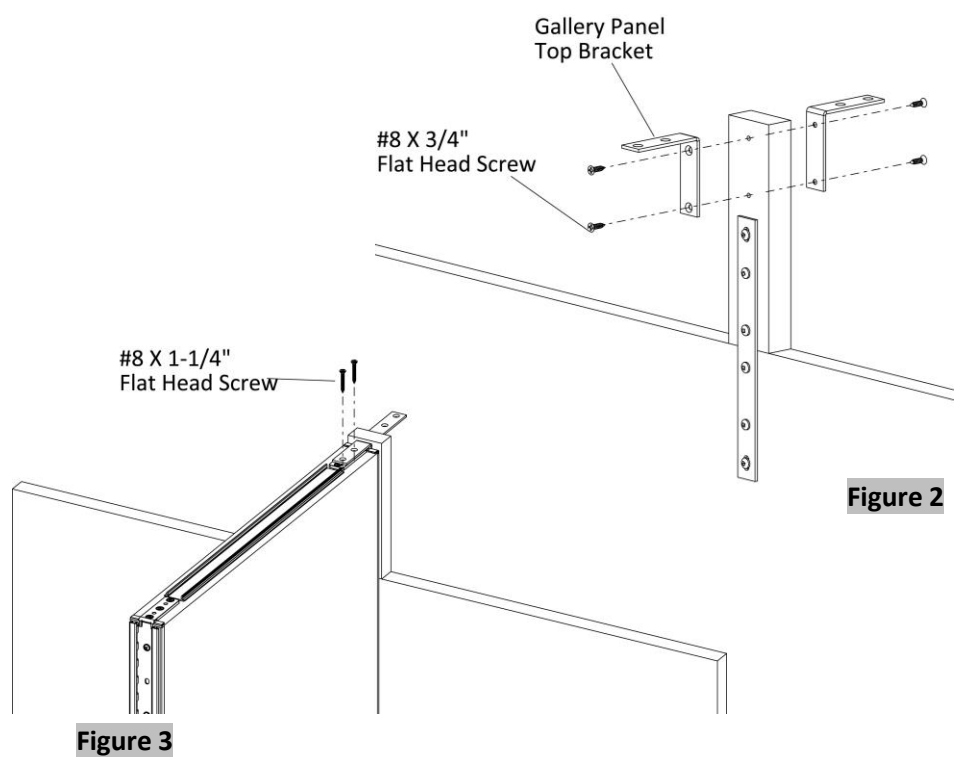

Figure 2
- 4. Securely fasten the gallery panel top brackets into the pre-drilled holes of gallery panel filler using #8 X 3/4" Flat Head Screws, (Figure 2).